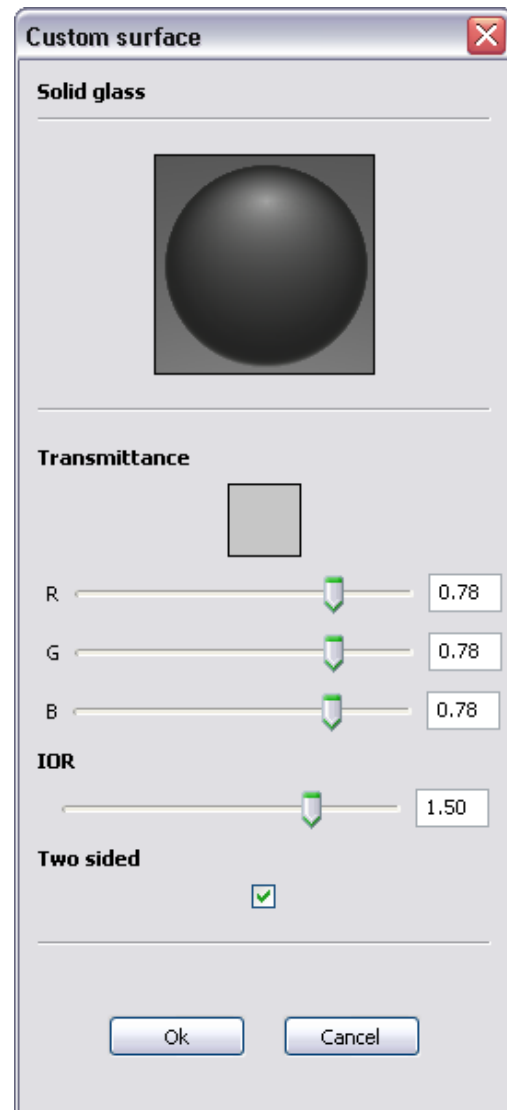

Figure 46 Custom solid glass surface settings.
**The solid glass** option includes IOR (Index Of Refraction) that models the bending of light crossing the interface of a material. It ranges between 1 and 2. If the model includes solid glass, the objects should consist of two layers. If an object only consists of one layer, the *Two sided* check box should be disabled, see Figure 46.